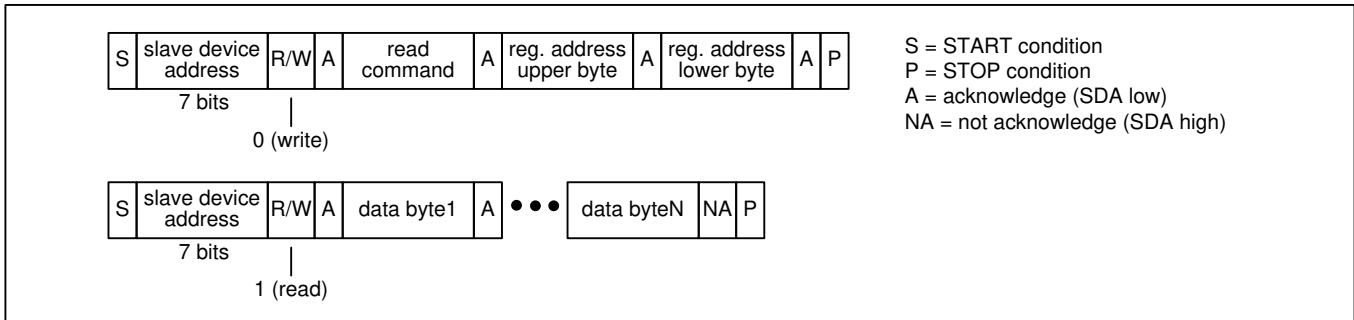
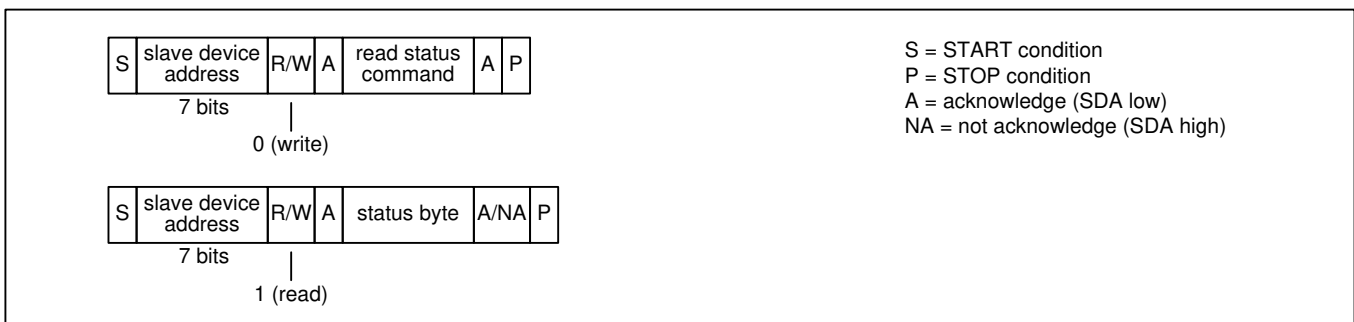

Figure 7 – I²C Read Transaction Functional Timing
Figure 10 – I²C EEPROM Read Status Transaction Functional Timing
Read Transactions. The device registers are accessible when $EESEL=0$. The internal EEPROM memory is accessible when $EESEL=1$. The bus master first does an I²C write to the device. In this transaction three bytes are written: the SPI Read command (see Table 3), the upper byte of the register address, and the lower byte of the register address. The bus master then does an I²C read. During each acknowledge (A) bit the device fetches data from the read address and then increments the read address. The device then transmits the data to the bus master during the next 8 SCL cycles. The bus master terminates the read with a not-acknowledge (NA) followed by a STOP condition (P). See Figure 7. Note: If the I²C write is separated in time from the I²C read by other I²C transactions then the device only outputs the data value from the first address and repeats that same data value after each acknowledge (A) generated by the bus master.
EEPROM Read Status. The bus master first does an I²C write to transmit the SPI Read Status command (see Table 3) to the device. The bus master then does an I²C read to get the status byte. In this byte, the least significant bit is set to 1 if the transfer is still in progress and 0 if the transfer has completed. See Figure 10.
Note: In Figure 7 through Figure 10, a STOP condition (P) immediately followed by a START condition (S) can be replaced by a repeated START condition (Sr) as described in the I²C specification.